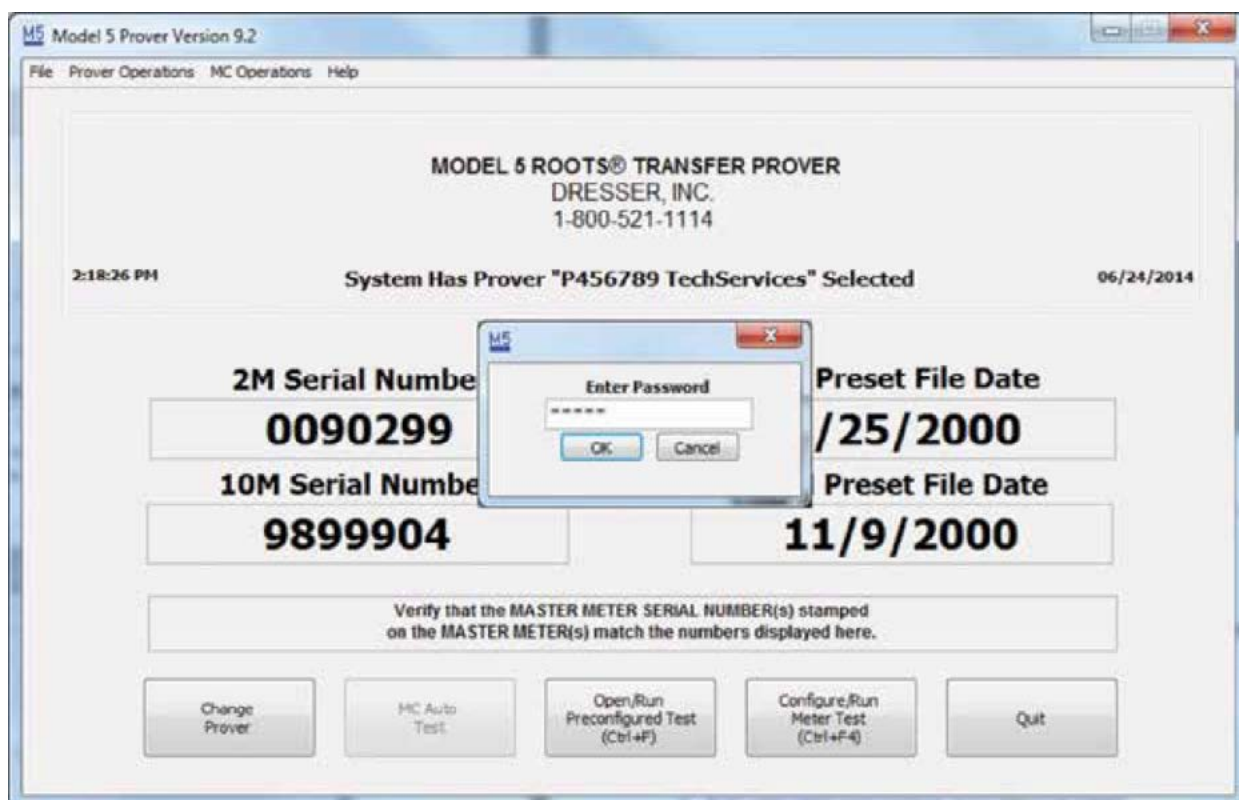

Figure 15: Password Dialogue Box
3. A small dialog box will appear. Enter the password "ROOTS" as shown in Figure 15.